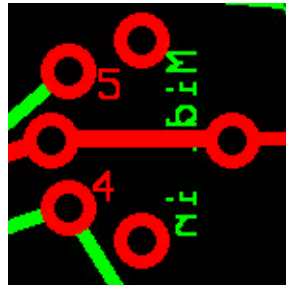

Fig 1
1. Identify the component side of the board. To identify the component side find the numbers that identify the numbered midi connections, as in Fig 1. You are looking at the component side. All soldering is carried out of the reverse side.
4. Identify the capacitors(2) and insert them into the correct position and orientation and solder. The capacitors are polarized,, that is they have a positive and negative pin (the negative pin is identified with a minus sign down the side of the capacitor body). On the PCB the negative hole has a round pad. The positive hole Has a square pad.